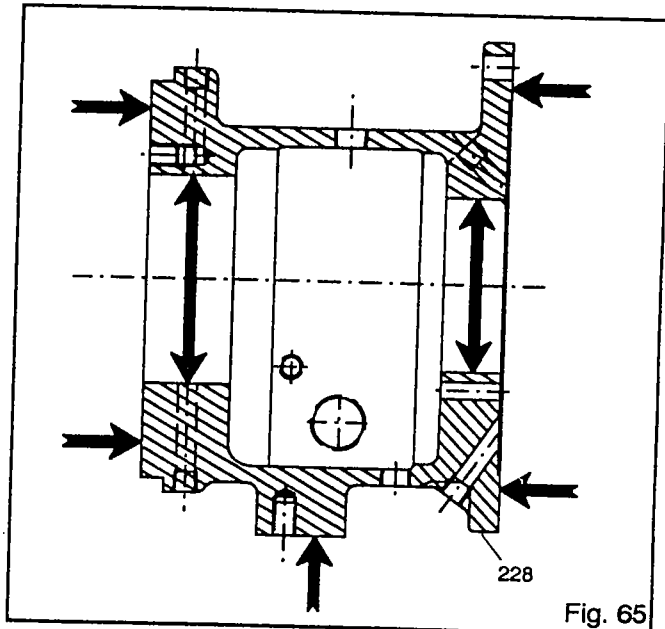

Fig. 65
Visually inspect bearing frame (228) and frame foot (241) for cracks. Check frame inside surfaces for rust, scale or debris. Remove all loose and foreign material (Fig. 65,66).